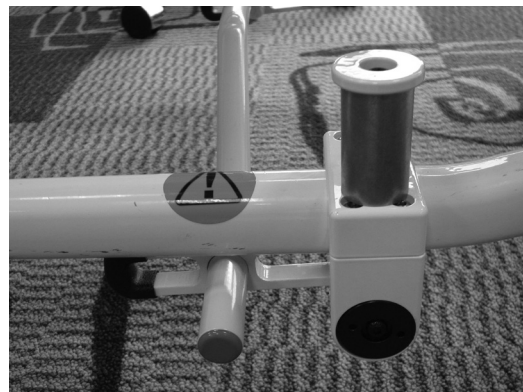

Figure 75
2. Operator 2 rolls the cot slightly forward to make sure that the kickstand retracts on its own as shown in Figure 75.